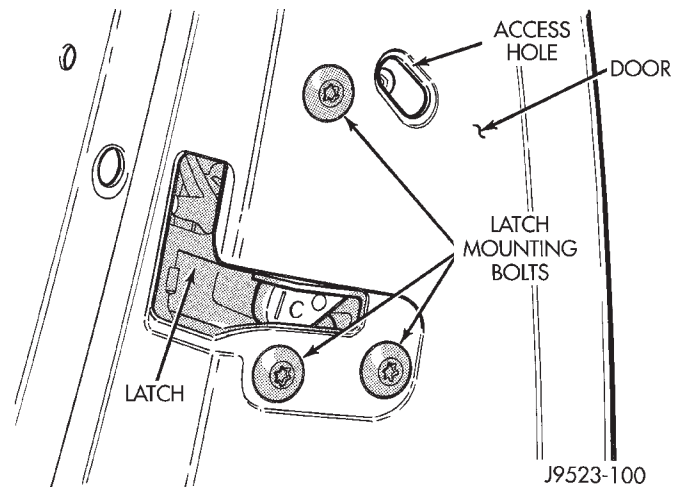

Fig. 81 Door Latch Adjustment
(1) Locate access hole (Fig. 81).
(2) Insert a 5/32-inch hex-wrench through hole and into adjustment screw. Loosen screw.
(3) Operate outside handle button several times to release any restriction because of mis-alignment.
(4) Tighten adjustment screw to 3 N·m (30 in-lbs) torque.
(5) Test handle button and lock cylinder for proper operation.